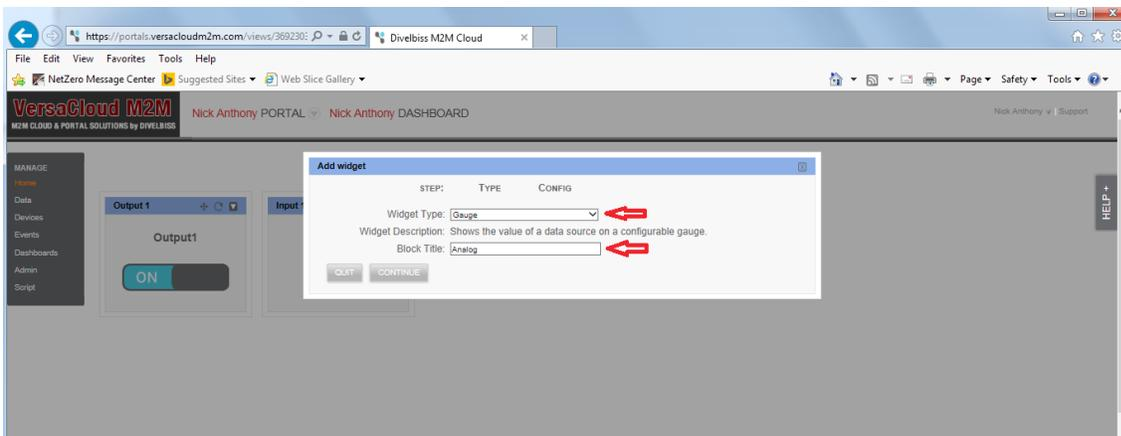

Figure 21 - Add Widget - Type
6. With a widget added to monitor an input value, one must be added to monitor / read an analog input source. As before, from the HOME page, click the **Add Widget** button. Refer to Figure 21. In this dialog, select the type of widget to add (Widget Type). For this application note, select the *Gauge*. Enter the title for the widget (Block Title). The title can be anything, but should be descriptive for the widget and data point it will represent. Click the **Continue** button. The Add Widget - Type dialog will open.